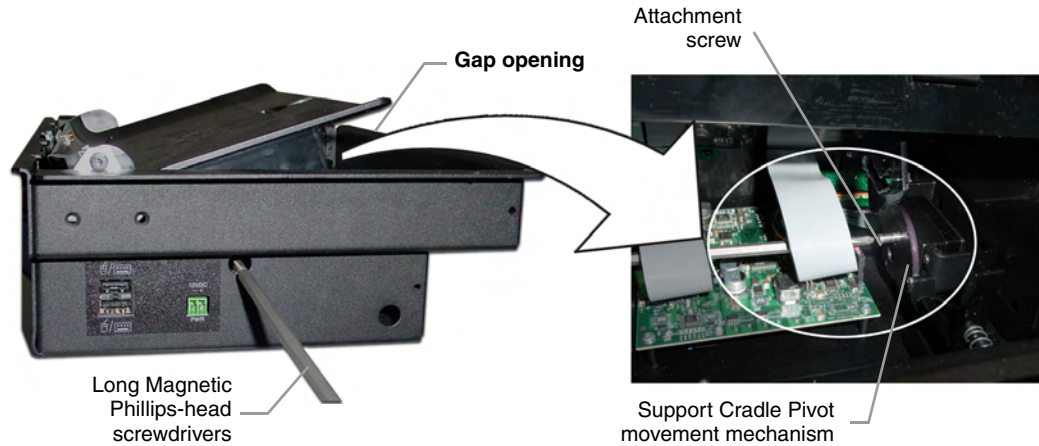

FIG. 22 Separating the support cradle from its movement mechanism
- 3.** Position the unit to allow a clear view through the gap between the cradle and the rim of the metallic WDS housing (FIG. 22). This view allows you to orient the alignment between the tip of the screwdriver and the screw holding the support cradle to its associated movement mechanism.
7. Insert the screwdriver (with attached securing screw) into the large hole along the side of the WDS housing (shown in FIG. 22 on page 21).
8. Position the unit so you can get a better view and orient the position of this screw back into its location where it secures the support cradle to its associated movement mechanism (shown in FIG. 22 on page 21).